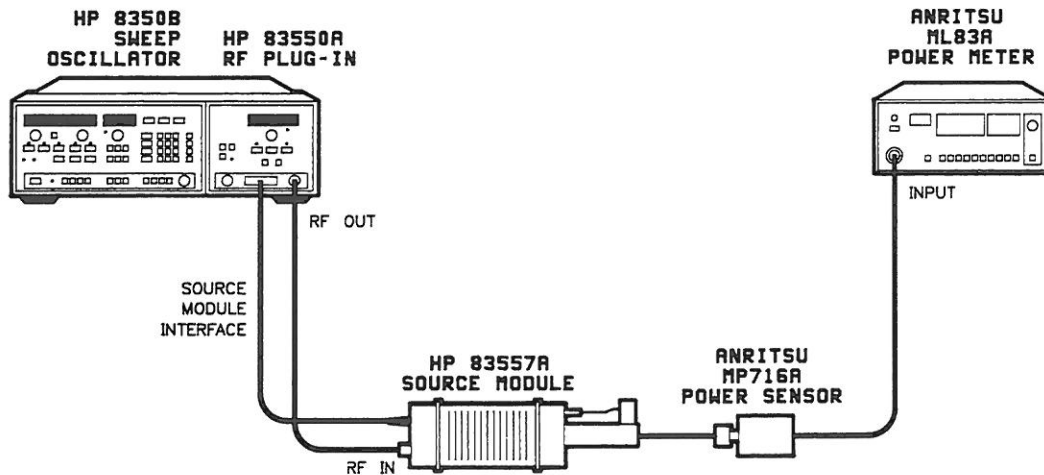

Figure 2a-3. System Configuration
1. Connect the equipment as shown in Figure 2a-3. Do not connect the power sensor to the HP 83557A output.